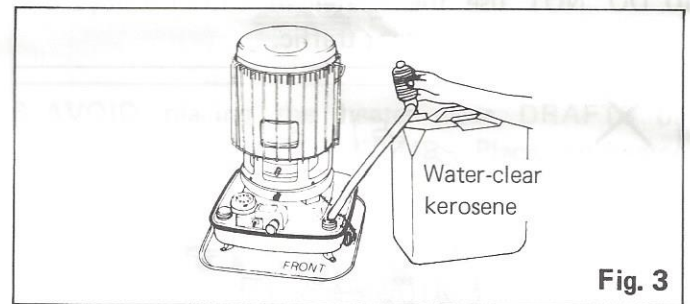

Fig. 3
3. Squeeze the pump bellows a few times, until kerosene flows freely. (Fig. 3)